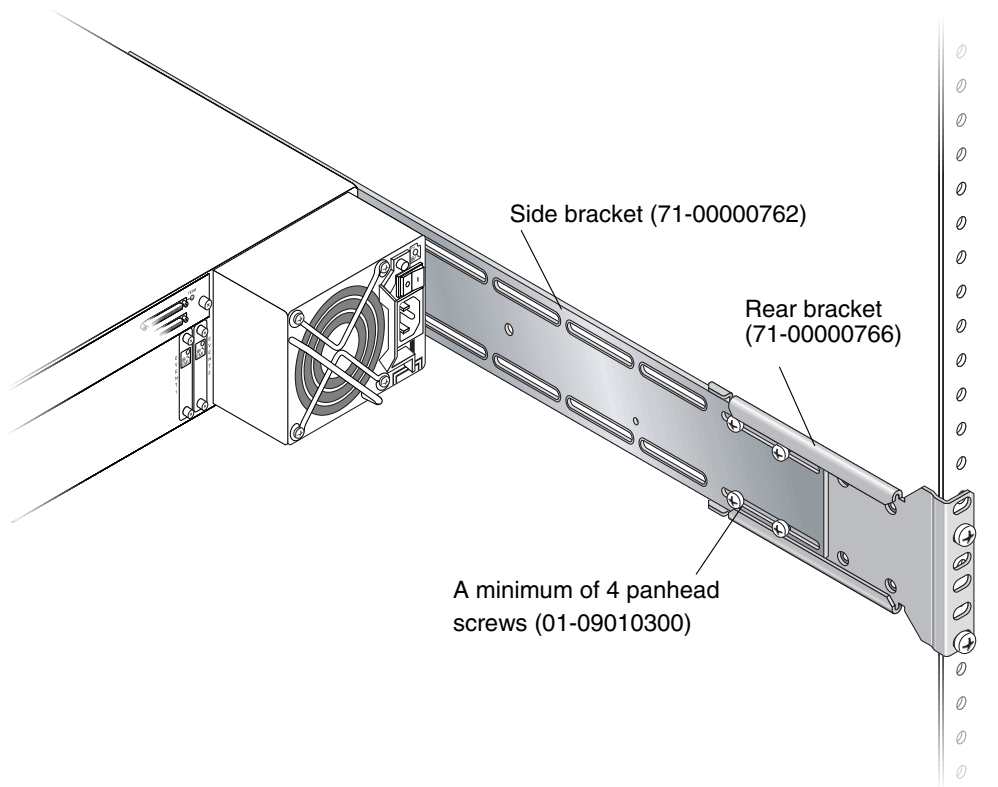

FIGURE 2-7 Rear and Side Brackets Assembled
8. Attach each side bracket to a rear bracket (see FIGURE 2-7):